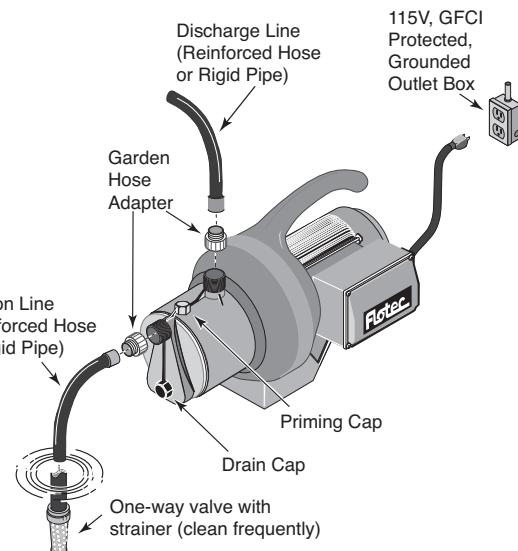

Figure 1 – Typical Installation
Both the suction and discharge ports are tapped for 1" MNPT threads. If using hoses, use a hose adapter. See Figure 1. Do not use a hose on the suction if pumping from lakes, streams or ponds. The hose will collapse and cause pump failure. Install a strainer with the foot valve on the end of the suction line. Inspect and clean the strainer frequently (Figure 1).
- When using a garden hose, install adapters on the pump suction and the discharge. The suction hose will require two female ends. Use a standard washing machine supply hose as a suction line (Figure 1).